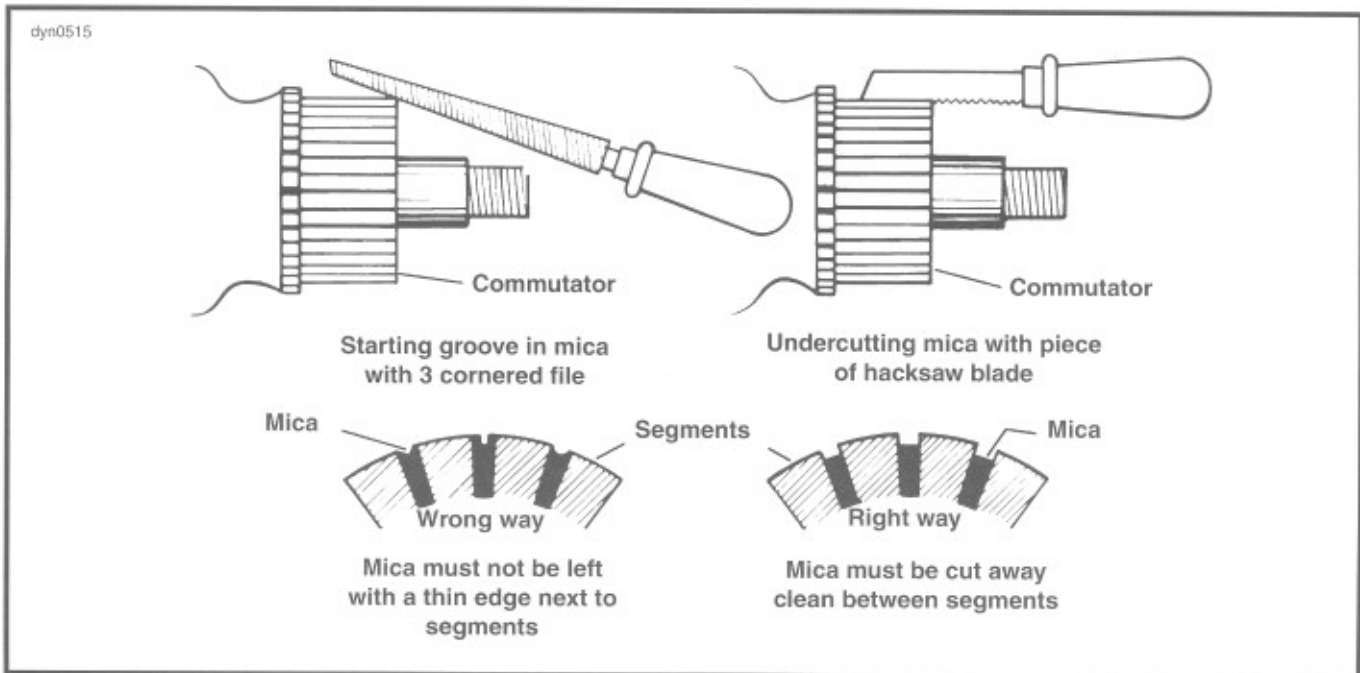

Figure 5-13. Undercutting Mica Separators
- Check depth of mica on commutator. If undercut is less than 0.008 in. (0.20 mm), use an undercutting machine to undercut the mica to 1/32 in. (0.79 mm) deep. The slots should then be cleaned to remove any dirt or copper dust. See Figure 5-13. If an undercutting machine is not available, undercutting can be done satisfactorily using a thin hacksaw blade. After undercutting, lightly sand the commutator with crocus cloth to remove any burrs.